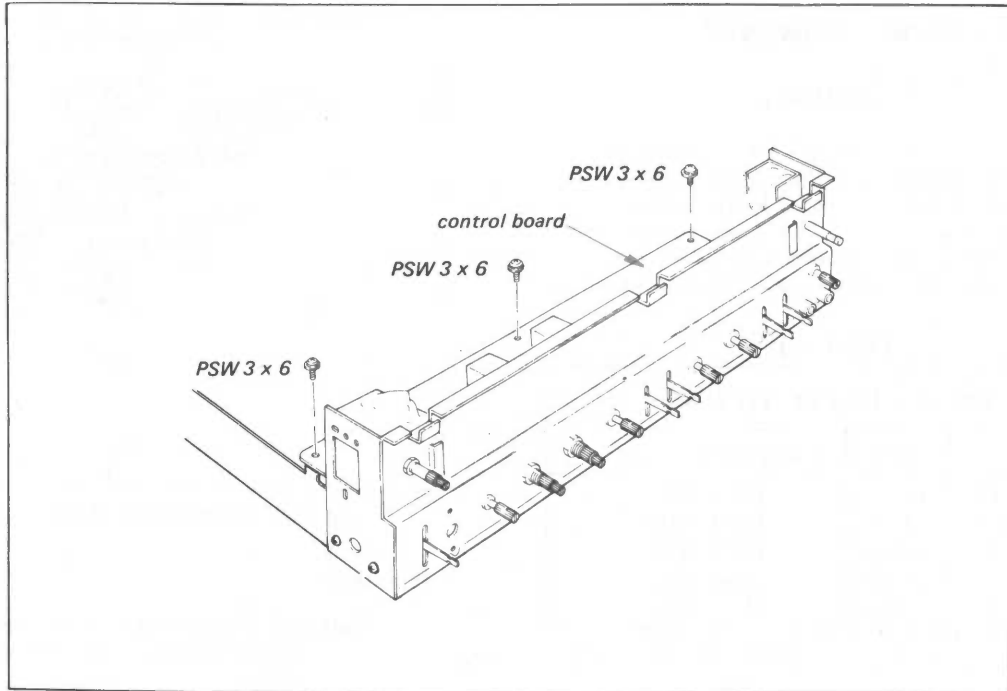

Fig. 2-14. Control, jack and switch replacement (2)
2. Remove the three screws (PSW 3 x 6) securing the control board to the chassis as shown in Fig. 2-14.